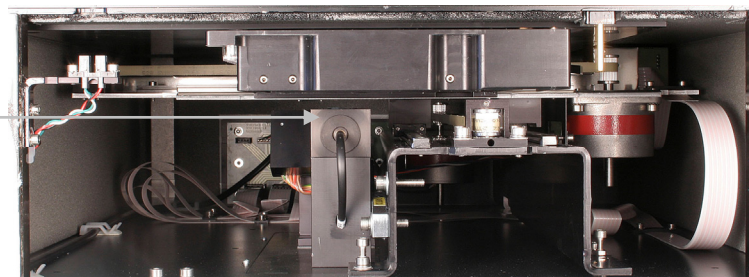

Figure 5-52. Internal view of the measurement chamber
4. If you have spilt infectious agents into the measurement chamber (Figure 5-52), decontaminate according to “Decontamination procedure” on page 102. Otherwise, clean the measurement chamber surface using a soft cloth or tissue paper soaked in a mild detergent solution, soap solution or 70% ethanol.
Caution Do not touch the optical lenses with bare hands. Avoid touching the lens of the photometric window (Figure 5-52) and the white reference chip (Figure 2-18) with bare hands. ▲